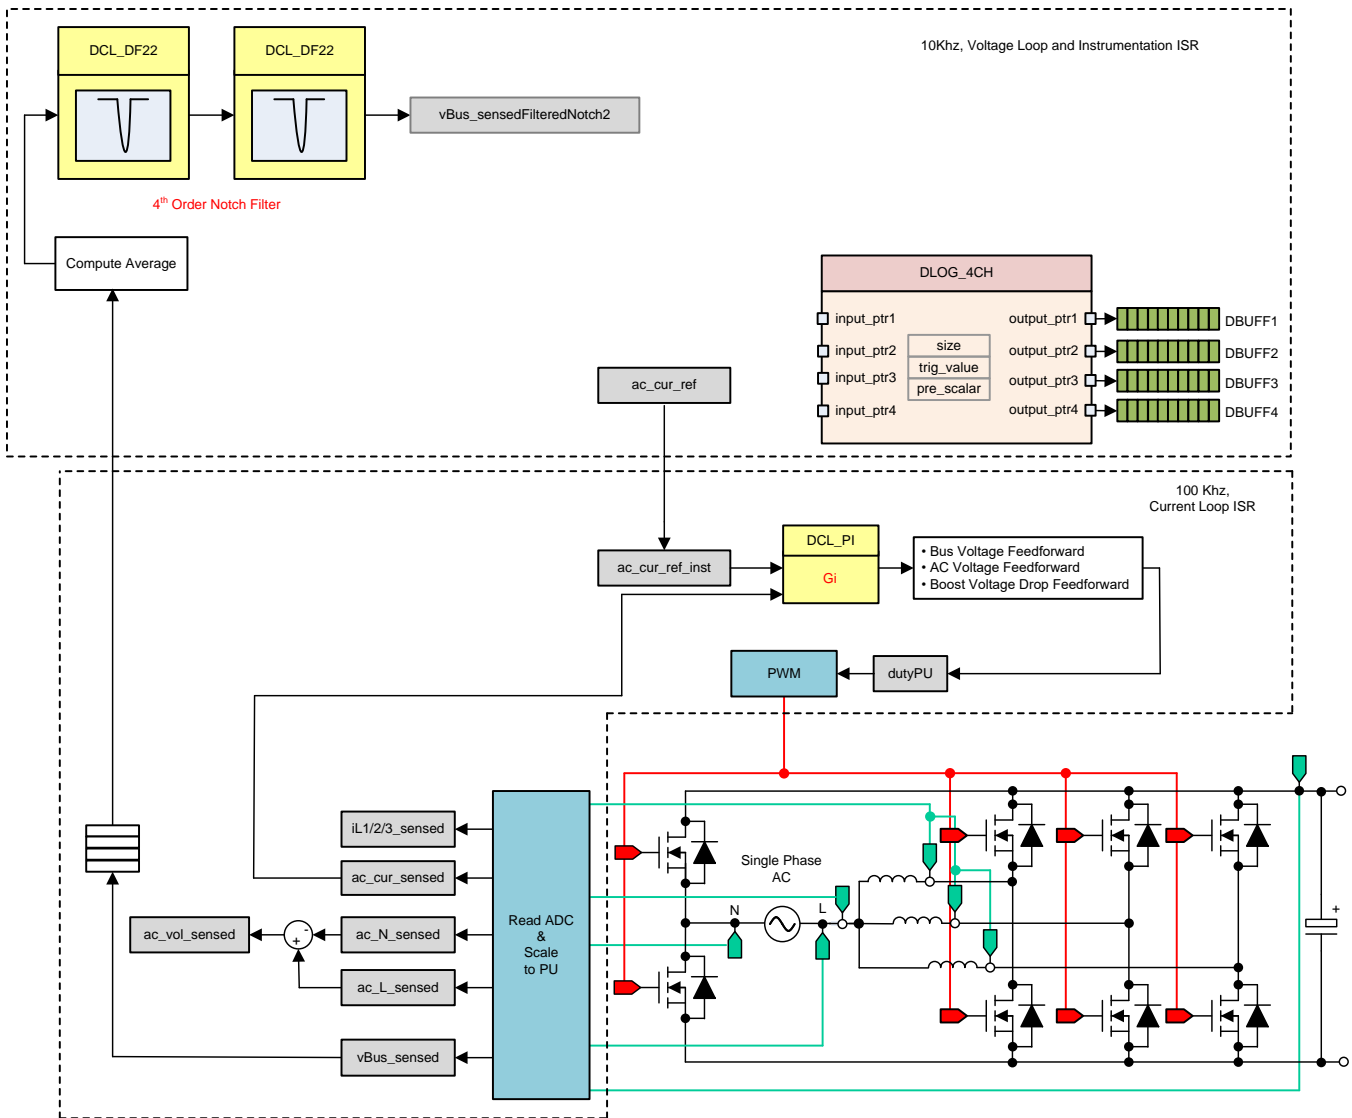

图 24. Build Level 2 Control Software Diagram: Closed Current Loop
In this build, BUILD 2, the inner current loop is closed that is the inductor current is controlled using a current compensator G_i . Both DC bus and output voltage feed forward are applied to the output of this current compensator to generate the duty cycle of the inverter, 公式 7. This makes the plant for the current compensator simple and a proportional (P) controller can be used to tune the loop of the inner current. The model for the current loop was derived in section 节 2.4.2. Complete software diagram for this build is illustrated in 图 24.
Complete software diagram for this build as illustrated in 图 24.